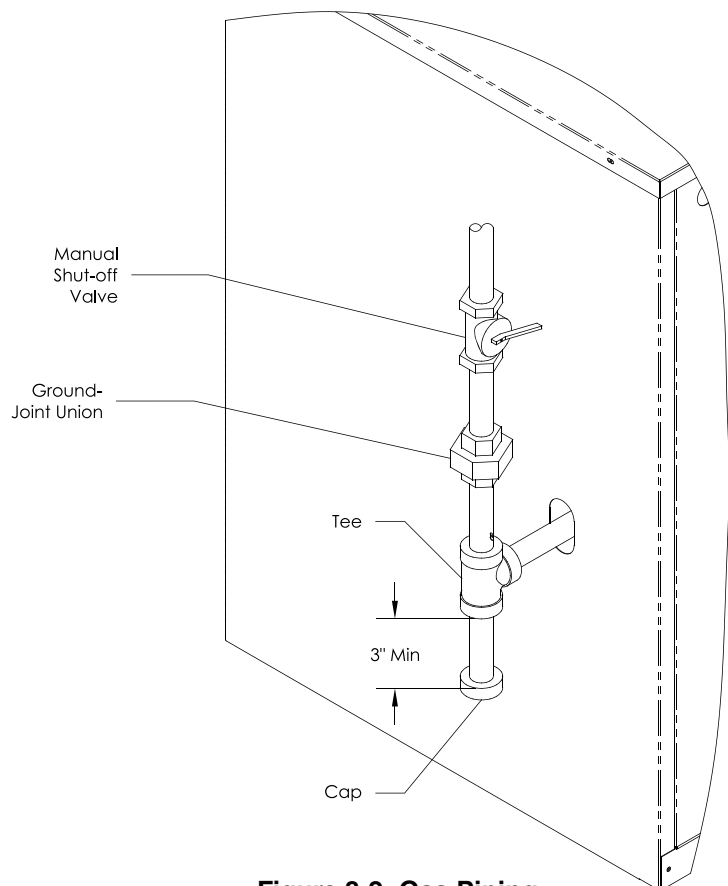

Figure 8-2: Gas Piping
D. Install sediment trap, ground-joint union and manual shut-off valve upstream of combination gas valve (within 6 ft. of boiler). See Figure 8-2